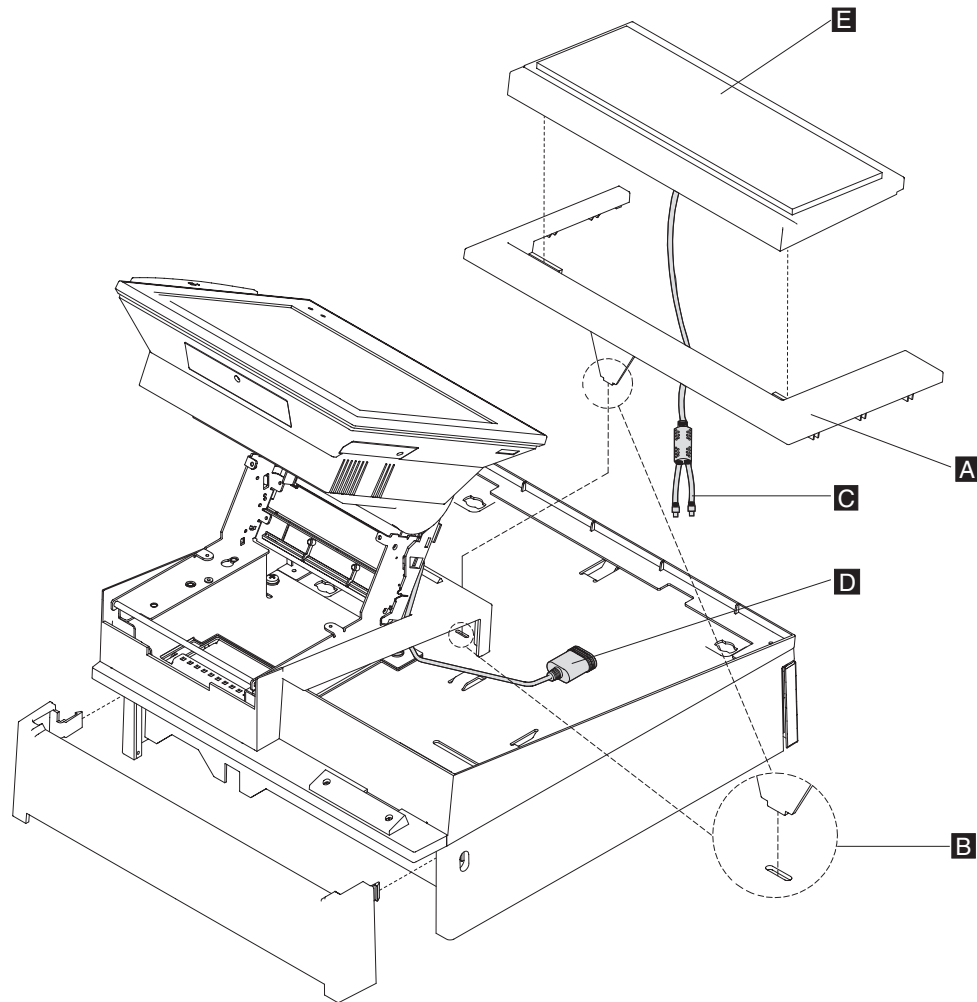

Figure 148. Removing the keyboard from the integration tray
- a. Remove the keyboard **E** from the keyboard integration tray by lifting the keyboard up and off the keyboard integration tray, as show in Figure 148 on page 170.
- b. Remove the keyboard filler panel **A** . For reassembling, observe that the keyboard filler panel is inserted into the slot on integration tray, as show in exploded view **B** , as show in Figure 148.